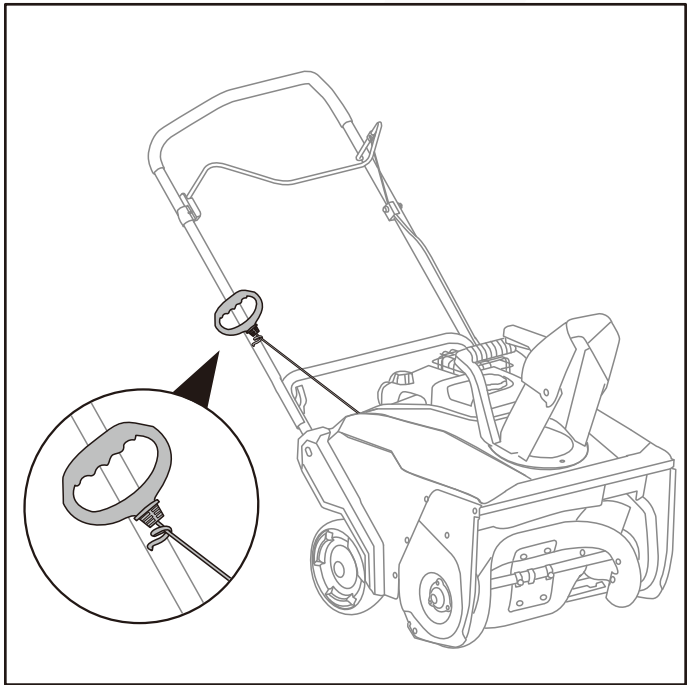

Fig.4
- 1. Slowly pull the recoil starter handle up towards the eye bolt. (Fig.4)
- 2. Slip the recoil starter rope into the eye bolt. (Fig.4)